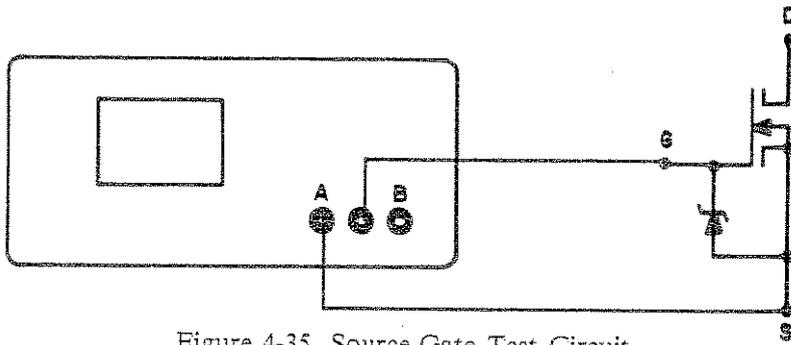

Figure 4-35. Source-Gate Test Circuit
To test the gate and source of the VN10KM, connect the test probes to the gate (G) and source (S) terminals as shown in Figure 4-35. Note that the drain (D) terminal is not connected.